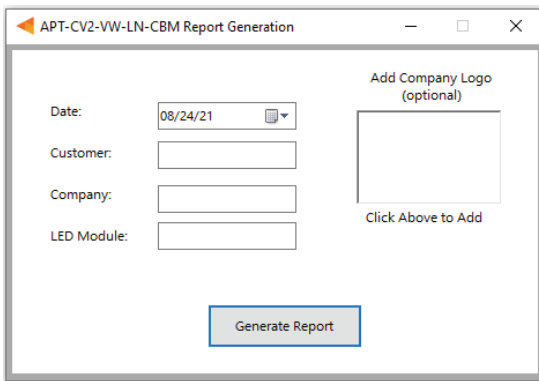

Figure 14: Report Generation window
- 5 Click **Generate Report**, the default web browser will open and display a preview of the print (shown in Figure 14).